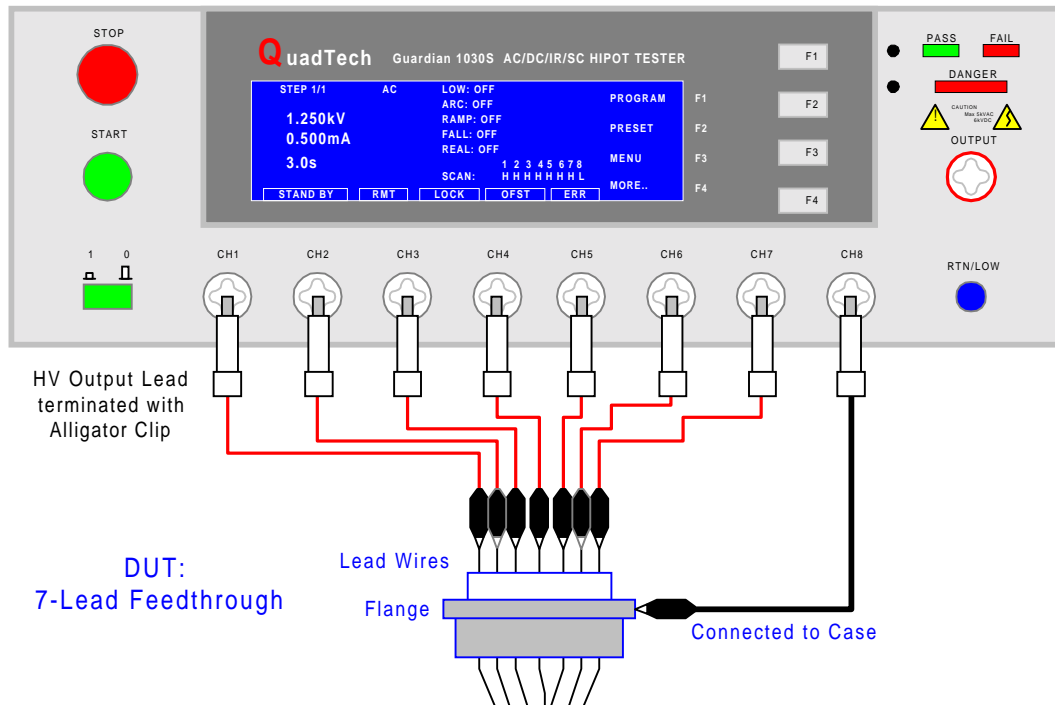

Figure 2: Feedthrough Connection to G1030S Hipot Tester
Using the QuadTech Guardian 1030S as illustrated in Figure 2, a feedthrough with up to eight connections (conductors/lead wires) can be attached to the eight scanner connections. Each output of the scanner can be configured as a High Voltage Output (H), or a Return (L) connection.